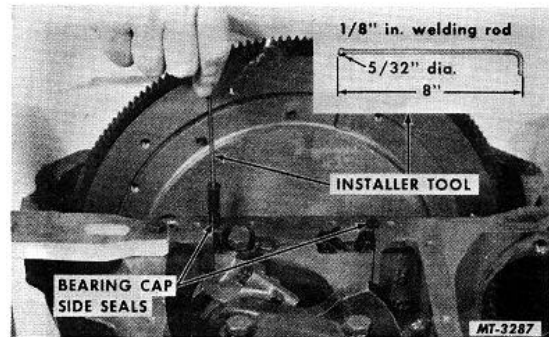

Fig. 145 Installing Rear Main Bearing Cap Side Oil Seals. Insert Shows Details of Installer Tool Which Can Be Made Locally.
5. Install rear main bearing cap side oil seals. Use an installer tool made from a piece of 1/8" welding rod. To make the tool, puddle a ball on the end of the rod and file the ball to approximately 5/32" diameter. See Fig. 145. NOTE: If excess material protrudes above the crankcase after the seal is installed, cut the excess material off flush with the bottom of the rear main bearing cap-to-crankcase mating surfaces.